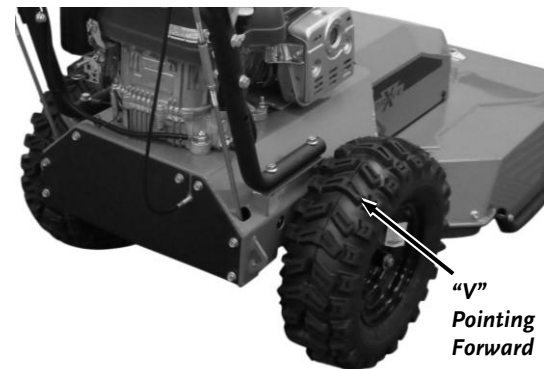

Figure 44
3. Align the Key slot in the Wheel Hub to the Key in the Axle and install the new/repaired Wheel with the "V" tread pointing forward (**Figure 44**). Secure with the Washer and E-Clip.